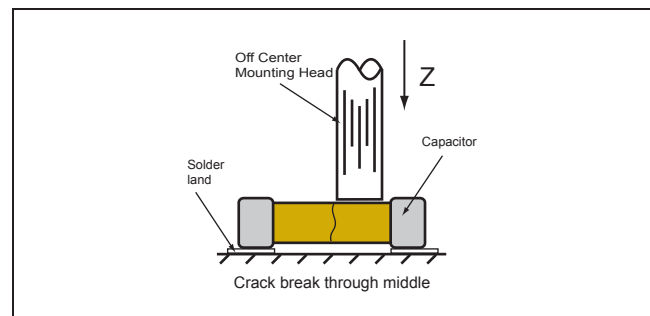

Figure 3-Off Center Mounting Head Cracks
Of course, excessive downward (Z) force can break a ceramic capacitor. But if the mounting head applies ample force to an area other than to the center of the ceramic, the stress on the capacitor during placement could still become significant enough to crack the component (see Figure 3).